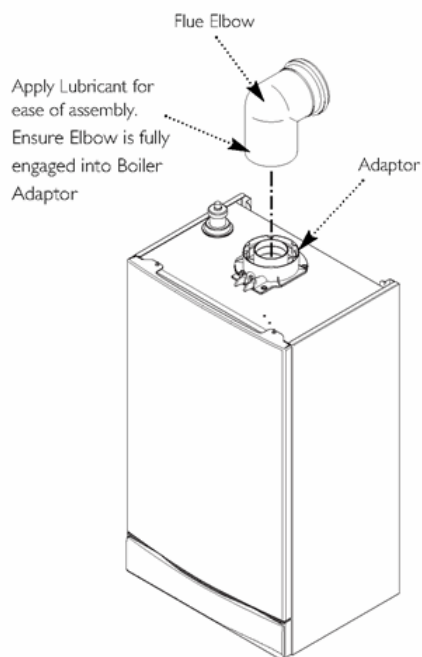

Fig. 47
2. Locate the flue elbow on the adaptor at the top of the boiler. Set the elbow to the required orientation (Fig. 47).